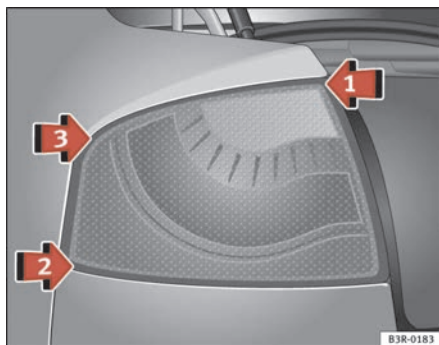
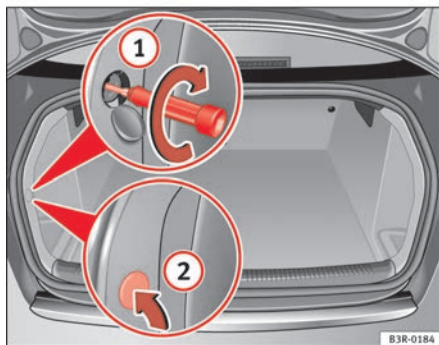

Fig. 212 Fitting the rear light unit
Fig. 213 Luggage compartment: Location of the bolt securing the rear light unit
- First place the rear light unit in ⇒ fig. 212 arrow ① in the housing.
- Gently press the rear light unit against the housing, first in position ② and then in position ③, until that the clips engage firmly in the rubber mountings.
- Apply gentle pressure on the front side of the rear light unit and secure using the screwdriver from the luggage compartment ⇒ fig. 213 ①.
- Replace the cover ② in the interior trim.